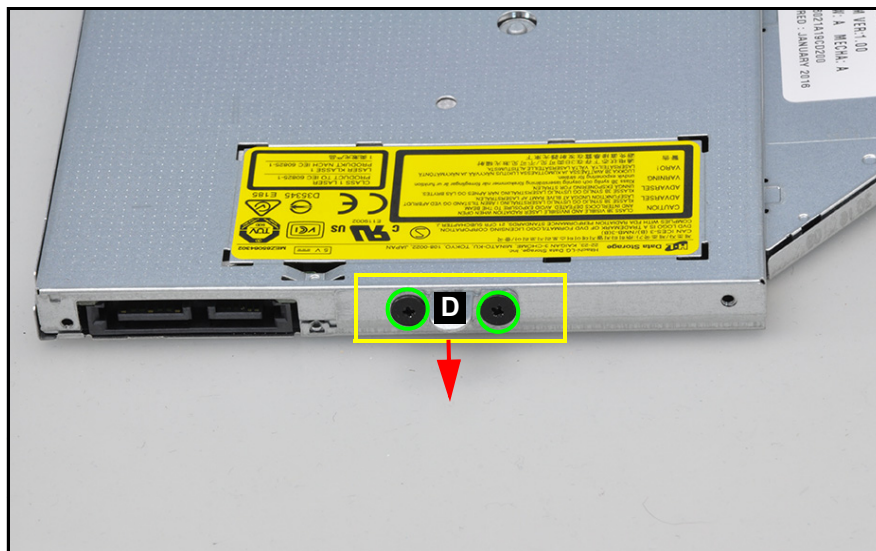

Figure 3-120. Replacing the ODD Bracket
1. Attach ODD bracket (D) to the optical drive (Figure 3-120).
2. Secure two (2) screws to the ODD bracket (Figure 3-120).